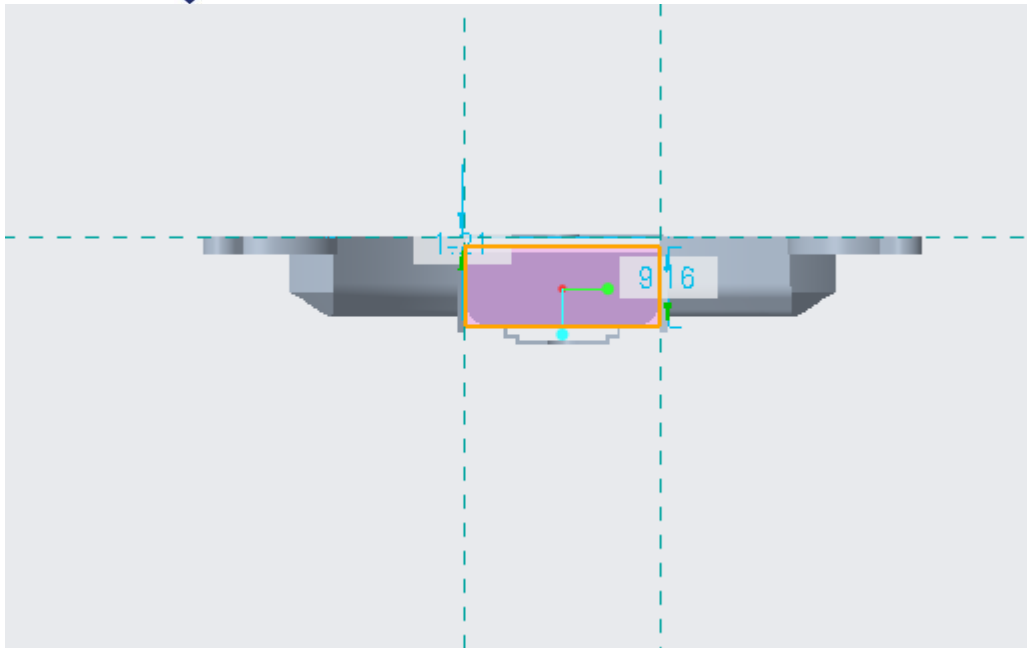

fig7.1
- Remove material as shown in fig7.1